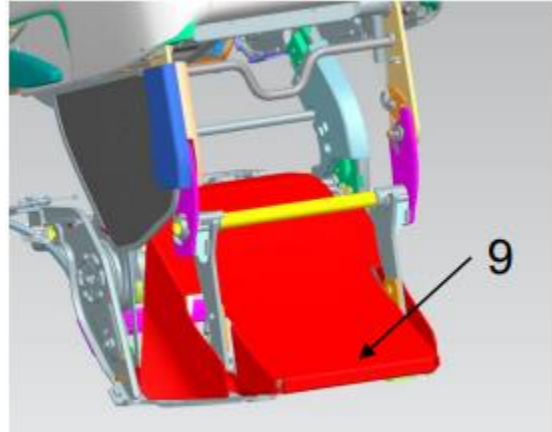

Fig 9.
9. Fold the lower carpet bin cover (Fig 9) up to gain access to the cable attachments.